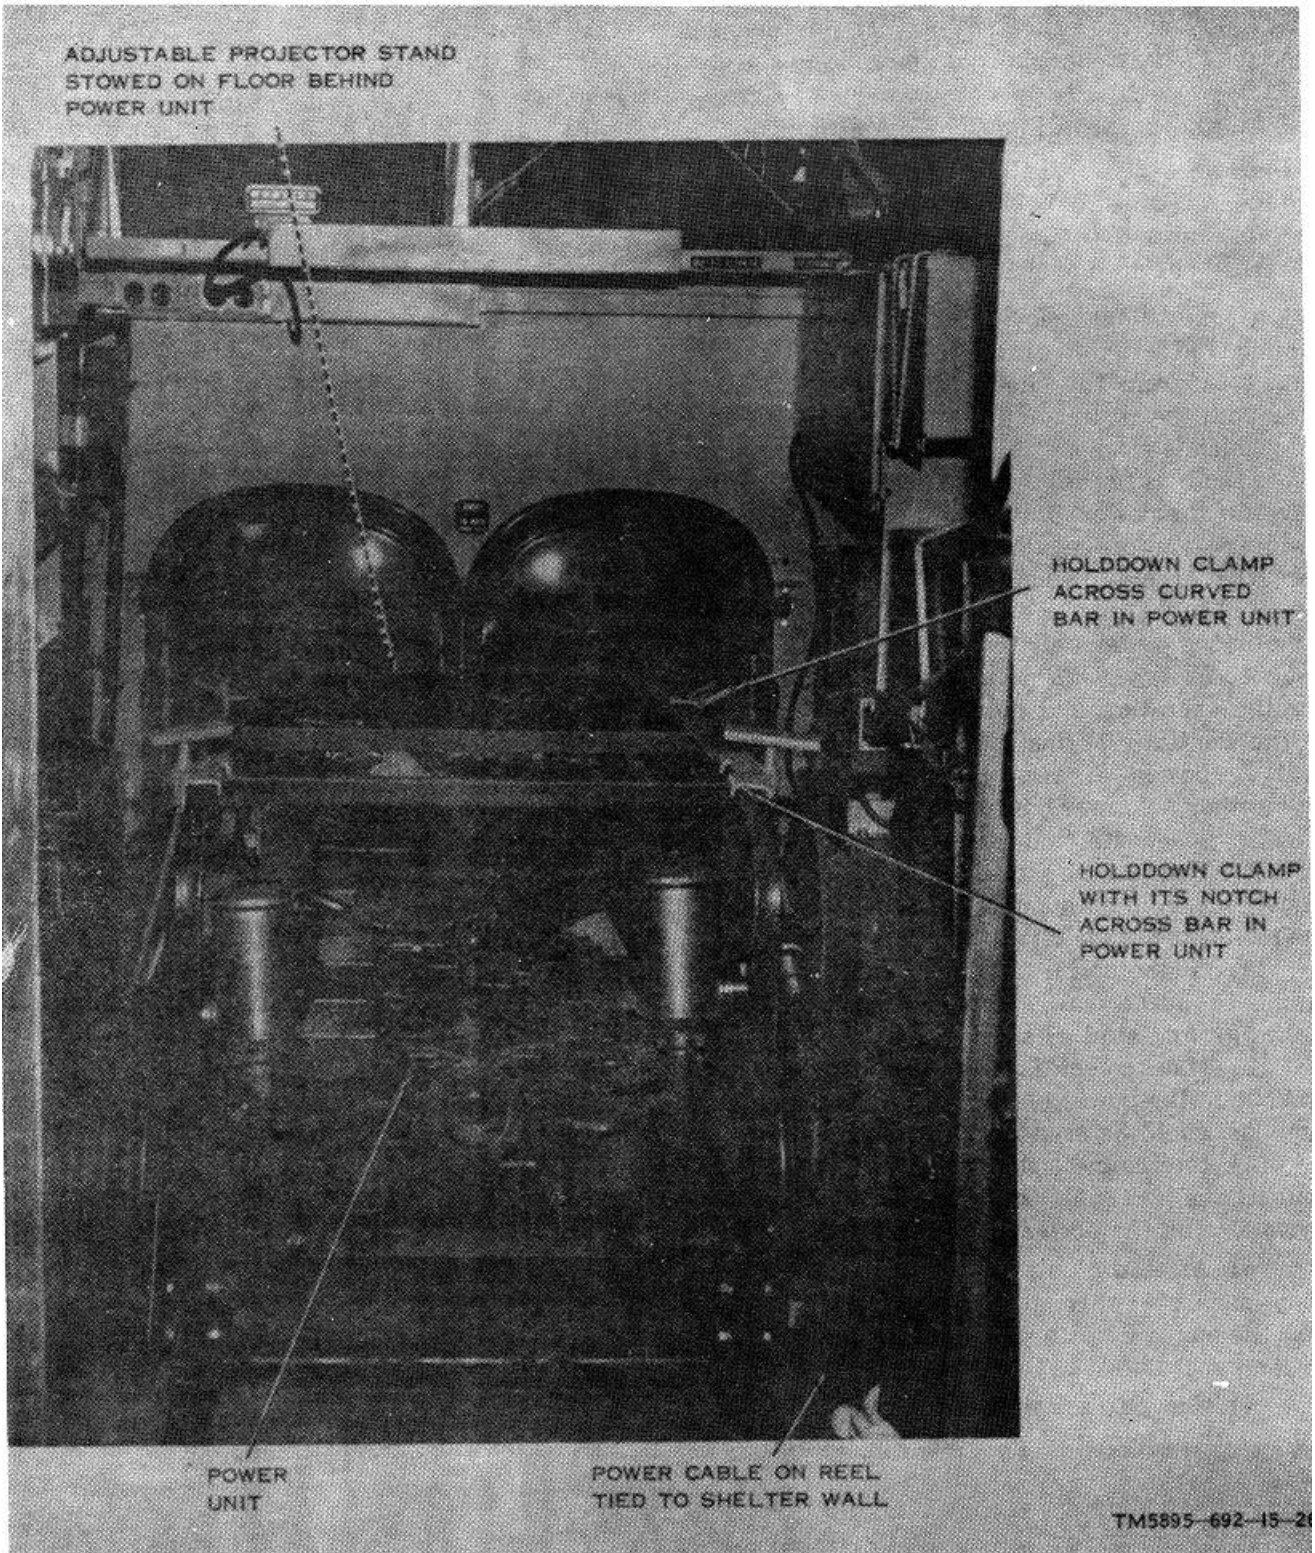

Figure 3-3. Power unit on floor of shelter.
(1) Remove the gas cans and the gas can rack at the rear of the shelter.
(2) Remove any items in front of the power unit.
(3) Unclamp the power unit (fig. 3-3) and set the clamps to the side so that they are not in the way when the power unit is pulled to the shelter door.
(b) Put the corner brackets at each corner of the BM-22A frame. Tighten the wingnuts at the corner brackets to tension the guy wires equally to the center guy bracket (fig. 3-3).